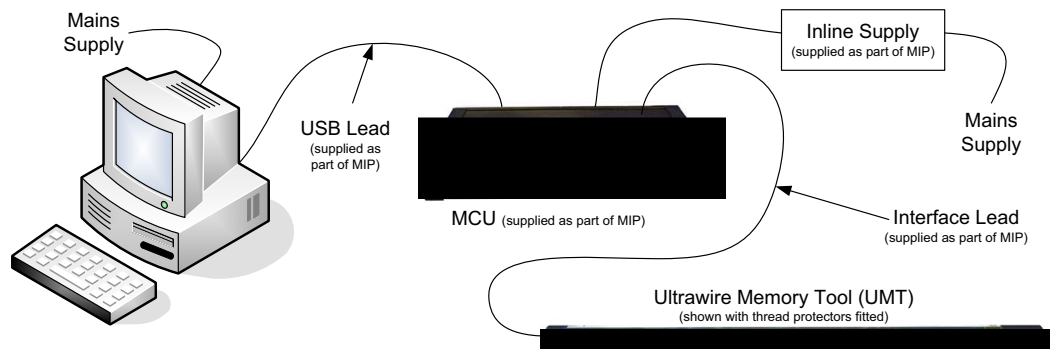

Figure 4.1 Programming Connection Diagram
- 2 When the job profile has been created, remove upper thread protector and connect the UMT as shown in Figure 4.1. Refer to Appendix A for equipment details.
Remove the upper thread protector and connect the UMT as per Figure 4.1. All operations are performed within the MEMLOG software. Refer to MN-MEMLOG for procedure.